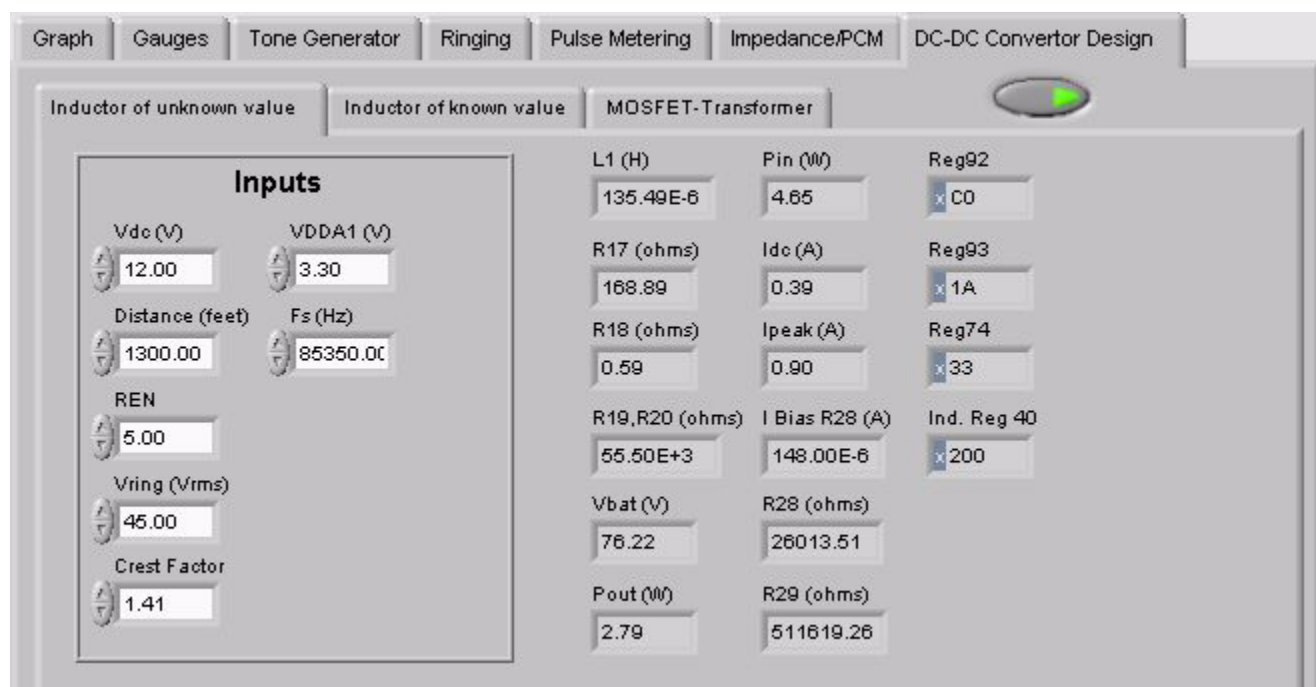

Figure 11. DC-DC Converter Window
The dc-dc converter design tab (see Figure 11) can be used to find component values and register settings for a custom board.
- Figure 11 on page 7 added.